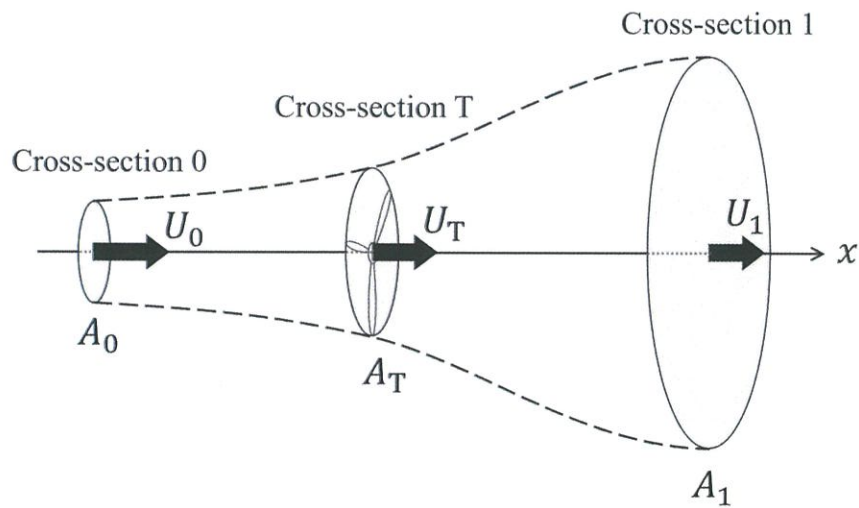

Figure 2-1
- I. The simplified system shown in Figure 2-1 is used to model a wind turbine placed in the downstream of a uniform air flow with a velocity  $U_0$ . The density  $\rho$  of the air is constant. By neglecting the thickness of the wind turbine in the flow direction (the  $x$ -direction), the wind turbine is replaced with Cross-section T with an area  $A_T$ . The air flows through Cross-section T with a velocity  $U_T$ . The dashed lines in Figure 2-1 illustrate the stream tube of the air flow passing through Cross-section T. Cross-sections 0 and 1 are located at the far upstream and downstream from the wind turbine, respectively. The pressures at Cross-sections 0 and 1 are considered to be the atmospheric pressure. The areas of the stream tube at Cross-sections 0 and 1 are  $A_0$  and  $A_1$ , respectively. The flow velocities at Cross-sections 0 and 1 are  $U_0$  and  $U_1$ , respectively. The air flow is steady and has a uniform velocity distribution at any cross-section in the stream tube. The energy loss of the flow is negligible. The efficiency of the wind turbine  $\eta$  is given by